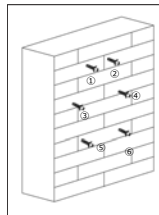

Fig. 7
Wall mounting (Fig. 7 & 8)
- Place the template against the line drawn on the wall and tape it in place. Mark where the screws should be inserted. (Fig. 7).